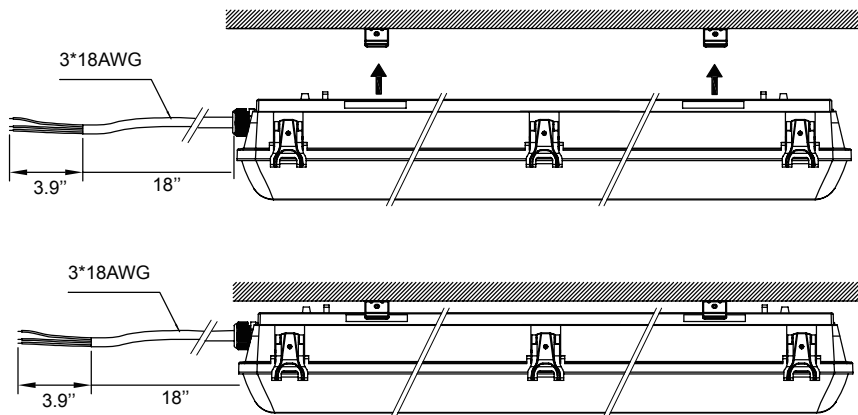

Figure 2
- Push the Fixture into the Bracket Slot. See Figure 2.